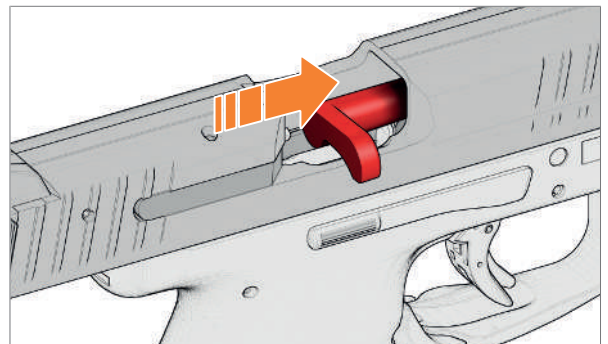

Fig. 30: Insert safety flag
3. Insert safety flag into chamber (Fig. 30).